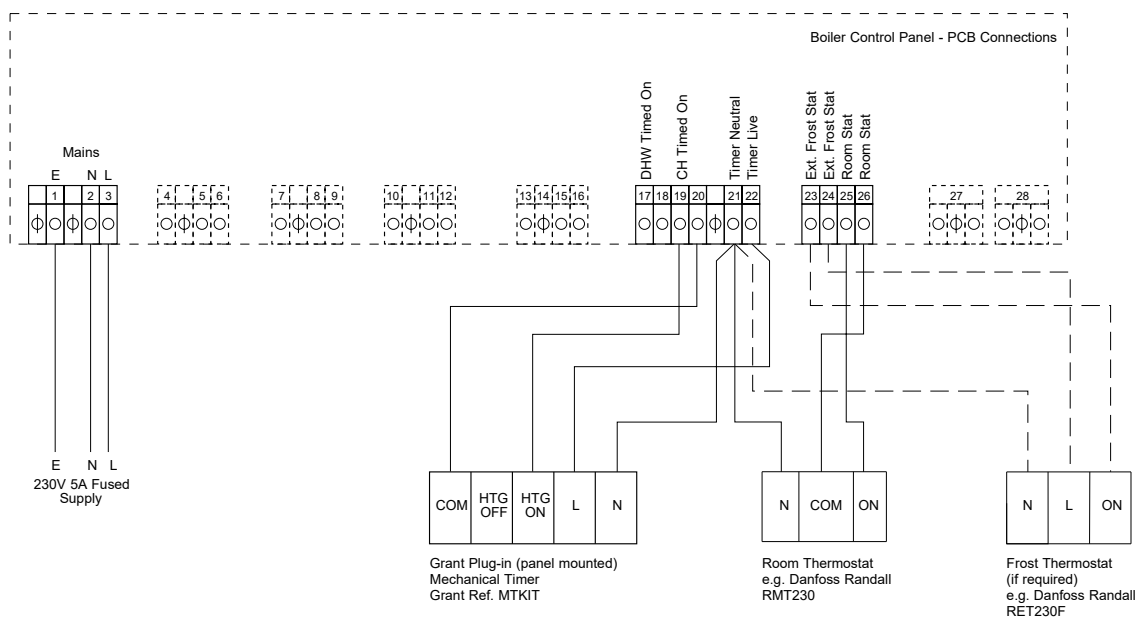

Figure 8-3: Connections for an MTKIT and room thermostat
2. Remove the Orange room thermostat link wire from terminals 25 & 26 on the connection block and connect the wires from the room thermostat. Refer to Figure 8-3 for further details.
5. Feed the wires through hole in control panel front and then up through rectangular opening in control panel top. Connect wires to terminals 19 & 20 on the control panel, using Figure 8-3 for guidance.